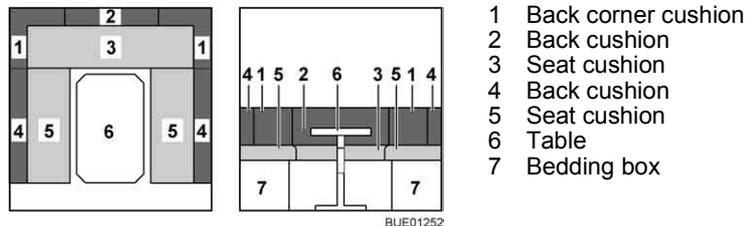

Fig. 101 Prior to conversion
- Remove the back corner cushions (Fig. 101,1) and the back cushion (Fig. 101,2) and store them under the table.